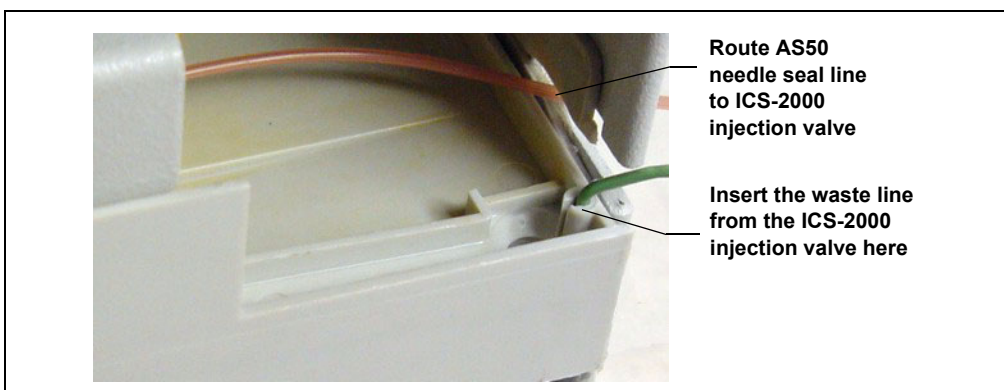

Figure 59. AS50 Drip Tray
3. The needle seal line that extends from the inject port in the autosampler is coiled inside the AS50 door, on the right side. Route this line through the AS50 right side slot (see Figure 59) and the ICS-2000 left side slot to the ICS-2000 injection valve.
6. Push the end of the green **AS50 TRAY** line into the small round opening on the right side of the AS50 tray (see Figure 59).